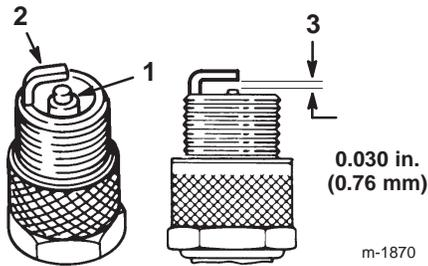

Figure 21
- Look at the center of the spark plug (Fig. 21). If you see light brown or gray on the insulator, the engine is operating properly. A black coating on the insulator usually means the air cleaner is dirty.
- Check the gap between the center and side electrodes (Fig. 21). Bend the side electrode (Fig. 21) if the gap is not correct.